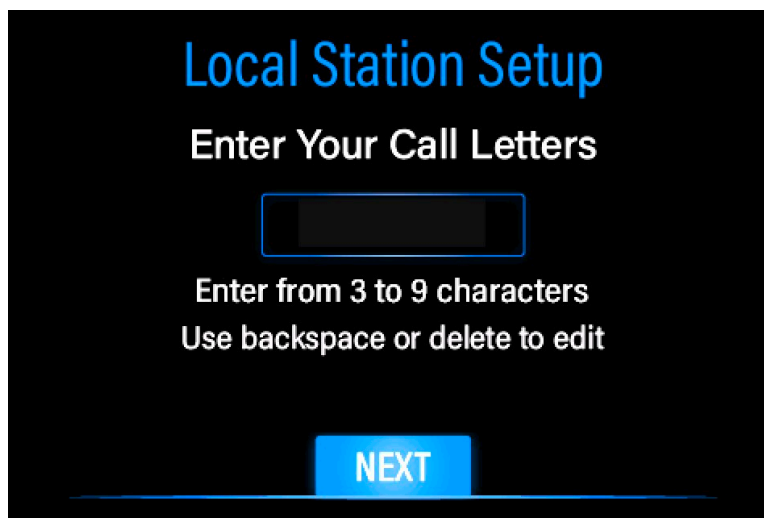

FIGURE 3: CALL LETTERS ENTRY SCREEN
3. Press the **LOCAL STATION SETUP button** at the top of the menu. The *Call Letters* entry screen will display, as shown in Figure 3 below:
There are two separate volume or gain controls on the MMX. One controls the audio volume going to the headphone jack. The other controls the signal gain to the decoder. The default values are 10 and 30, and are shown at the bottom left and right of the *Main Screen* (see Figure 3).